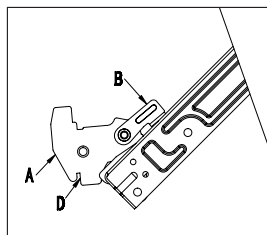

Fig.1
To make it easier to clean the inside of your microwave, the oven door can be easily removed, by proceeding as follows (Fig.1):
- Open the door completely and lift the 2 levers "B" (Fig.1);